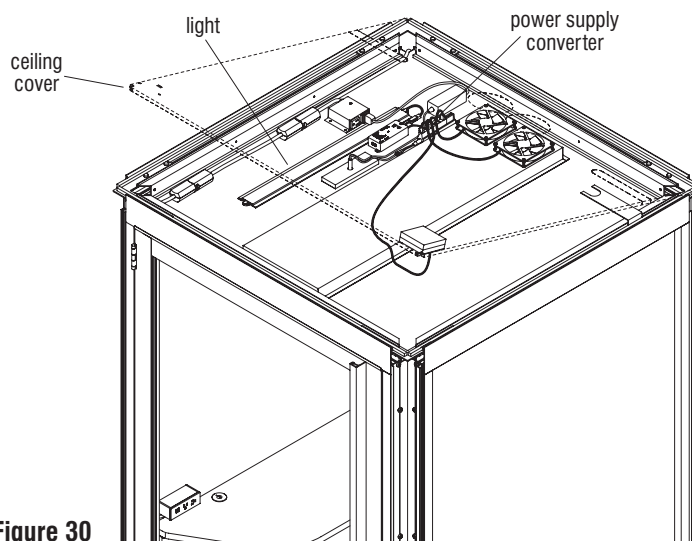

Figure 30
3. Wireless dimmer switches are pre-synchronized to the dimmer receivers before shipment. In the event that the switch and receiver need to be re-synchronized, have one person carefully lift the front end of the ceiling cover and locate the dimmer receiver (Figure 30). Press once (do not hold down) the Learning Key button on top of the receiver. Next, press dimmer switch once (press up if it is a rocker style switch). The switch will now be synchronized to the receiver to adjust the brightness of the light (Detail D3).